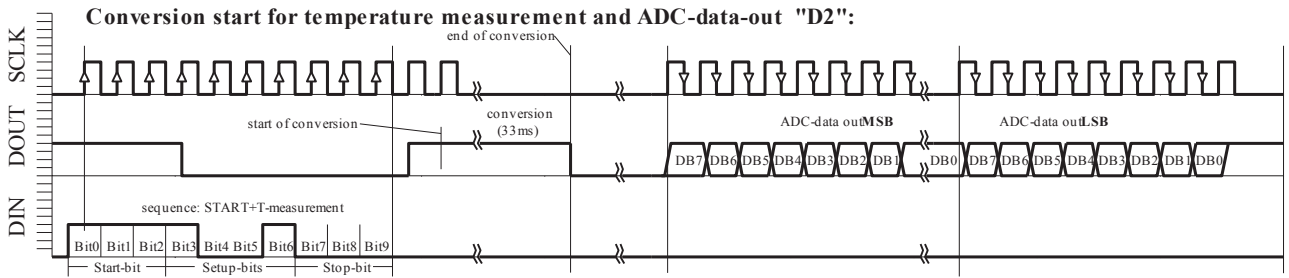

Fig. 6b: D2 ACQUISITION sequence
- ◆ Conversion start for temperature measurement and ADC-data-out "D2" (Figure 6b)